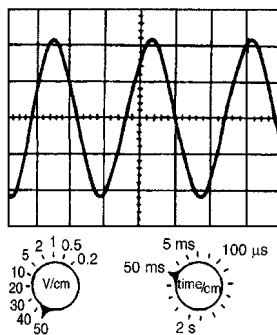

Figure 10.21
- 3 For the sinusoidal waveform shown in Fig. 10.21, determine (a) its frequency, (b) the peak-to-peak voltage, (c) the r.m.s. voltage